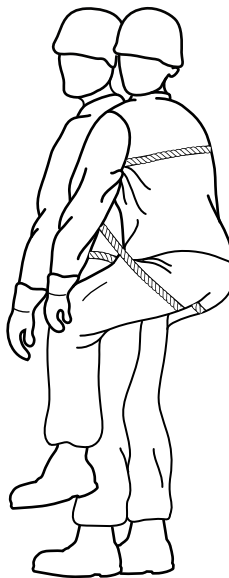

Figure 8-1. Sling Rope Carry.
- Then the ropes are run between the casualty's legs, around the thighs, and tied with a square knot with two overhands just above the bearer's belt buckle (see Figure 8-1).